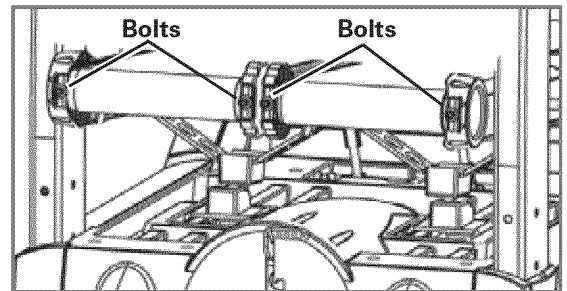

Figure 1 - Tension adjustment bolts
7. Tighten the tension adjustment bolts for the walking belts. Turn the bolts clockwise to increase the tension. See Figure 1.